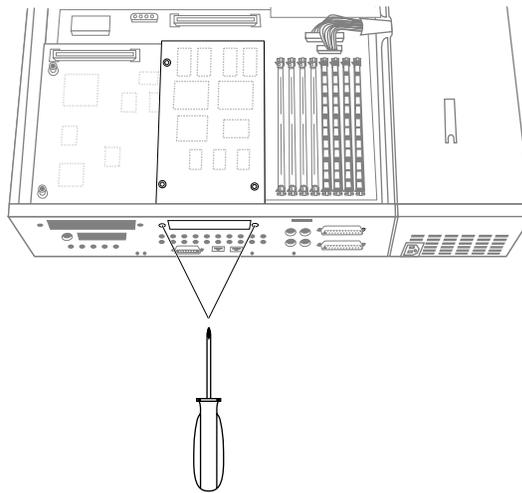

Figure 1-7 Removing the Screws From the GIO Board Connector
1. Locate the GIO option board in slot 0, as shown in Figure 1-7.
3. Using the reversible Phillips screwdriver provided with this package, remove the two screws from the GIO board connector on the rear of the workstation, as shown in Figure 1-7. If the flat end of the screwdriver is in position, pull it out and reverse it to the Phillips end.